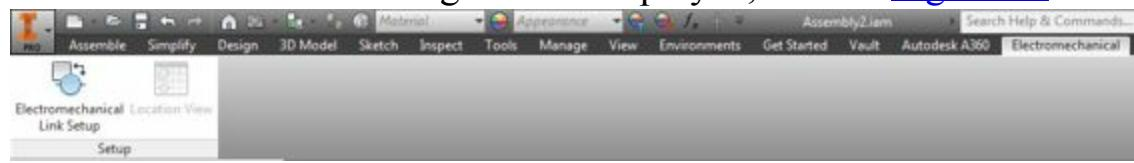

Figure-10. Electromechanical tab in Inventor
- Click on the **Electromechanical** tab from the **Ribbon** in Inventor. The tools related to Electromechanical linking will be displayed; refer to Figure-10.